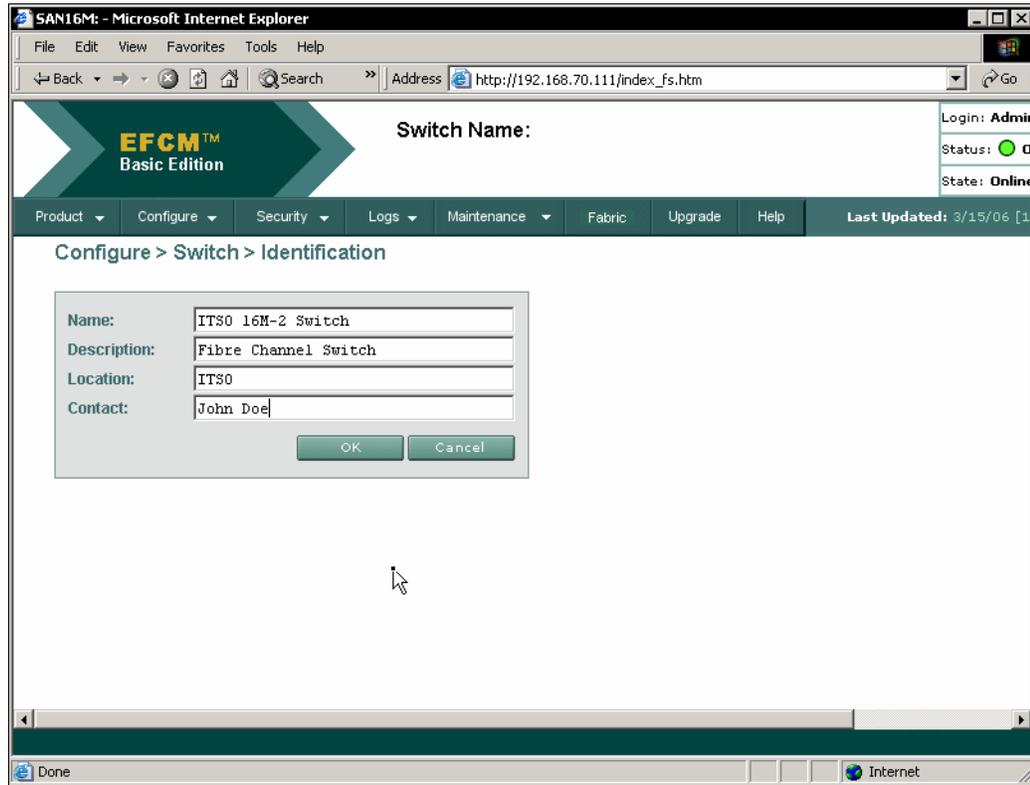

Figure 30 EFCM Basic - Identification view
2. This brings up the Identification view. Enter a product name and description, the physical location, and the name of a contact person if desired, as displayed in Figure 30. Click **OK**.